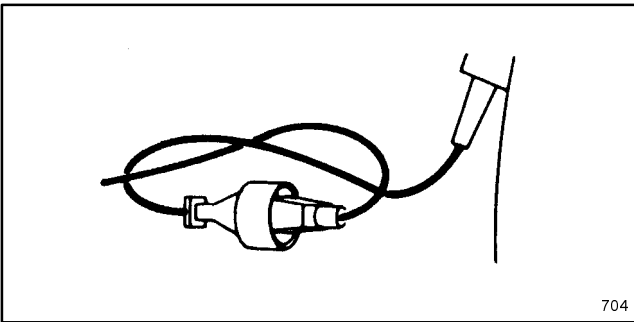

Figure 7
1. Secure the power supply cord and a suitable extension cord as shown in Figure 7.